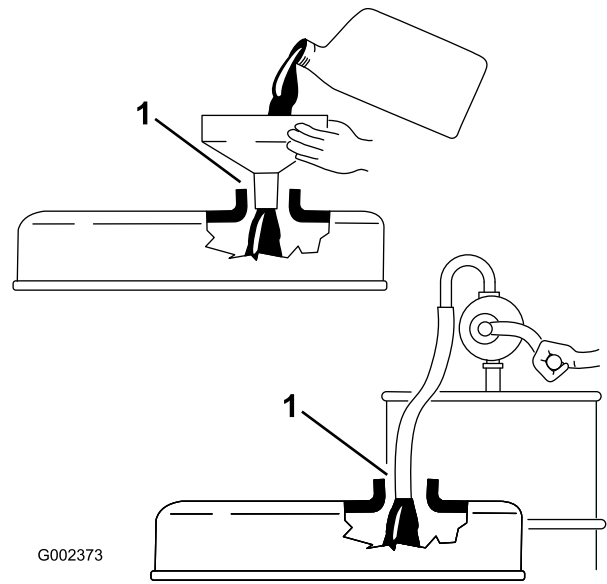

Figure 43
3. If the oil level is low, remove the filler cap (Figure 43) and add enough oil to raise the level-of-the-oil to the Full mark on the dipstick.
Important: When adding engine oil or filling oil, there must be clearance between the oil fill device and the oil fill hole in the valve cover as shown in Figure 43. This clearance is necessary to permit venting when filling, which prevents oil from overrunning into the breather.